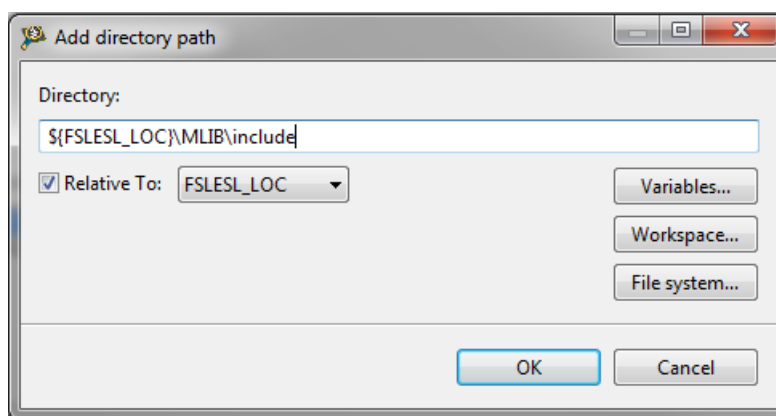

Figure 1-12. Library include path addition
12. Tick the box Relative To, and select FSLESL_LOC next to the box. See Figure 1-12. Click OK.